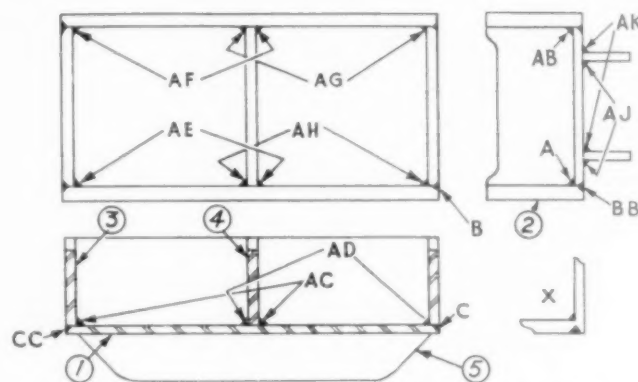

FIG. 1. The weldment, reproduced from Installment No. 1, this series.
IN THE PRECEDING INSTALLMENT, we presented alternate methods—as with welding positioners and straight line flow—for welding the assembly which, as a refresher, is reproduced here. Note Fig. 1. The welds A to AK, B and BB, and C and CC, will be referred to in discussing the fixtures. Also reproduced, as a refresher, and shown here as Figs. 2 and 3, are the station sequence and flow charts of the various operations. These, too, will be reconciled with the fixtures, the whole aimed to assist the reader in following the operation sequences.
Station 1. Assemble bottom member (Detail, Fig. 1) to one side member (Det. 2). Tack weld.
- Sta. 16. Assemble keels, Det. 5, Fig. 1.